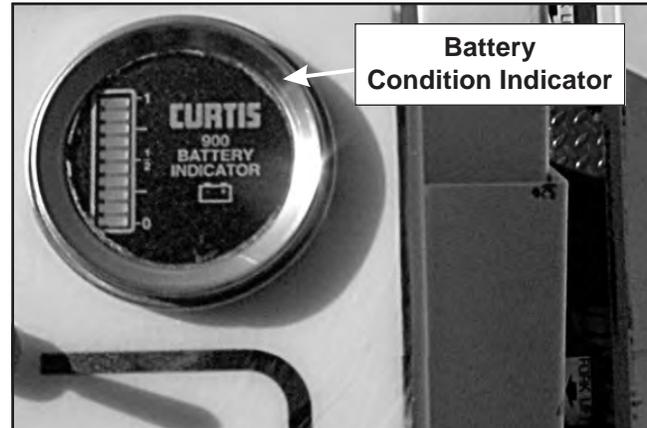

**Figure 8.22—Electrical Power Outlet**
1. Push the black test button (refer to Figure 8.22).